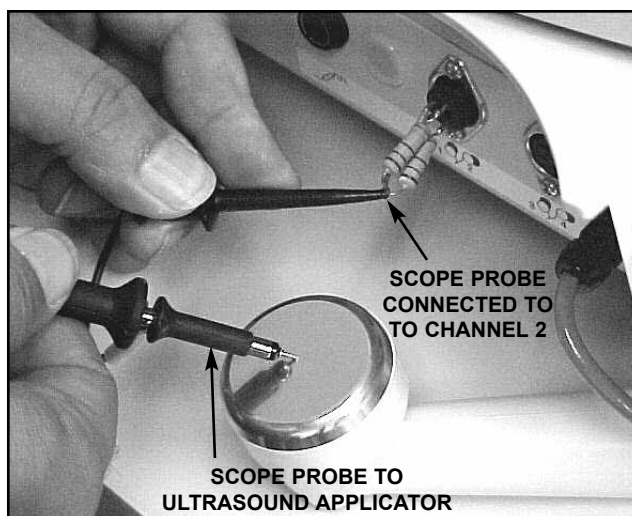

FIGURE 5.29
7. Connect scope probe to the Channel 2 side of the 650 Ohm load and the other probe to the Ultrasound Applicator. See Figure 5.29.